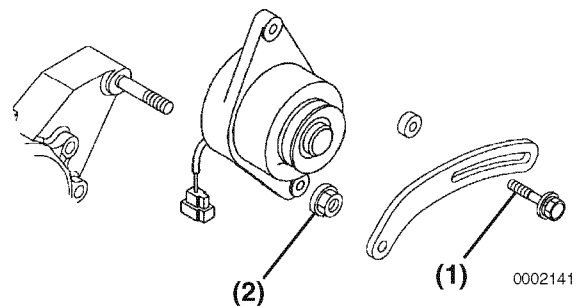
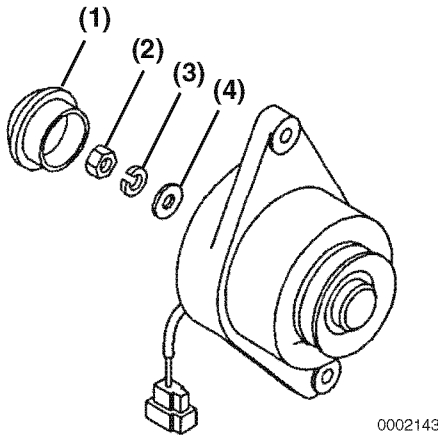

Figure 11-23
Figure 11-24
3. Remove the V-belt adjuster from the dynamo bolt (Figure 11-23, (1)).
4. Remove the nut (Figure 11-23, (2)) from the gear case stud. Remove the dynamo.
1. Remove the rear cover (Figure 11-24, (1)).
2. Remove the nut (Figure 11-23, (2)), lock washer (Figure 11-24, (3)), and flat washer (Figure 11-24, (4)).